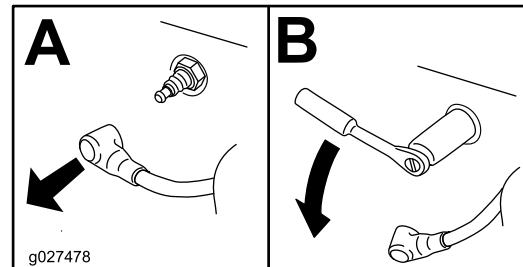

Figure 44
4. Remove the spark plug (Figure 44).